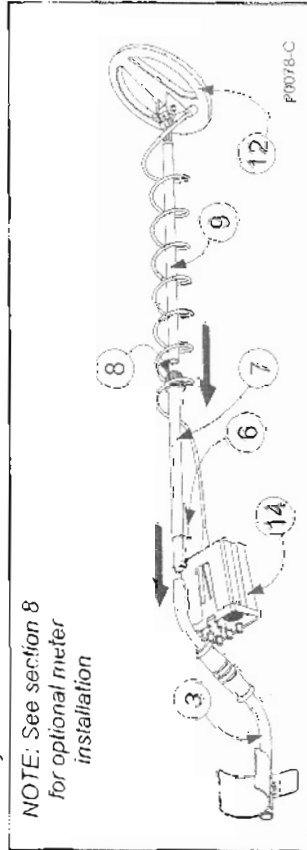

Figure 4 - Completing the shaft assembly
- Slide the intermediate shaft (7) into the upper shaft (3). The black "V" clip (6) must be facing down along the foam handgrip section of the upper shaft (see Figure 4).
- Remove the tape on the lower fibreglass tube (9) that is holding the black teardrop washers (10) in place. **NOTE:** Ensure the washers do not fall out after removing the tape.
- Remove the black nylon wing nut, and bolt (11) from the coil (12).
- With the teardrop washers in place, push the lower tube (9) into the coil bracket so that the holes line up.